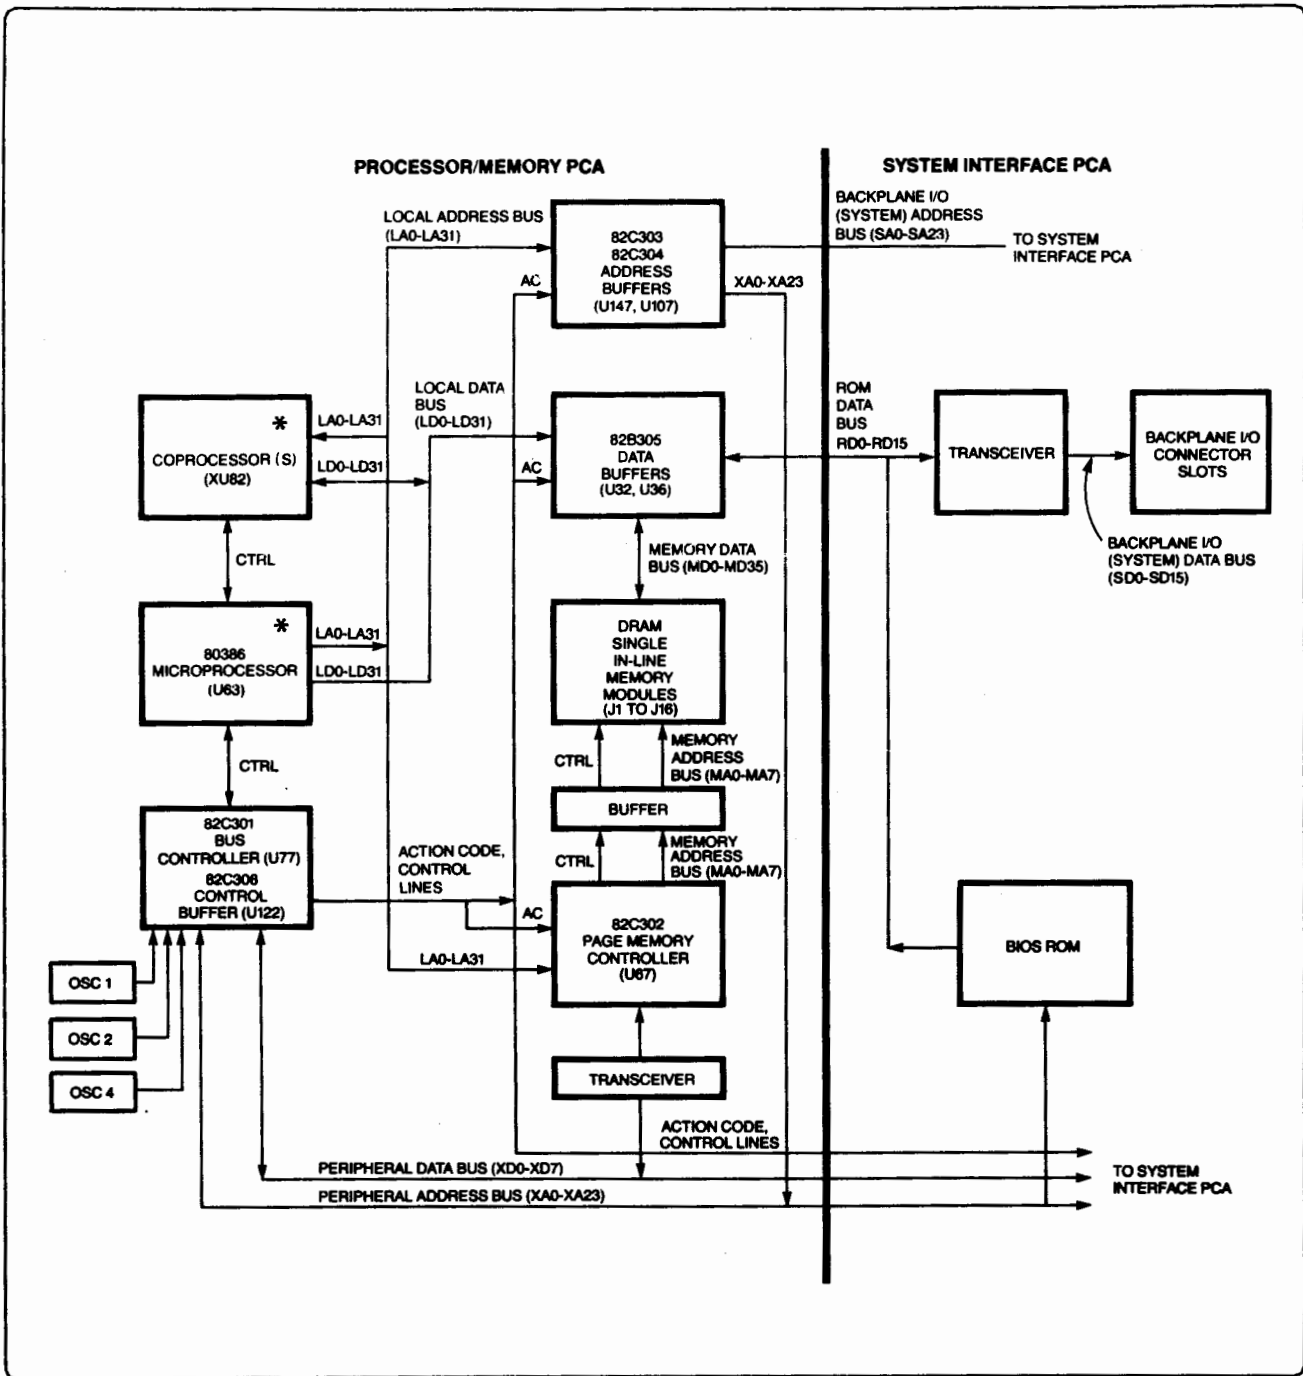
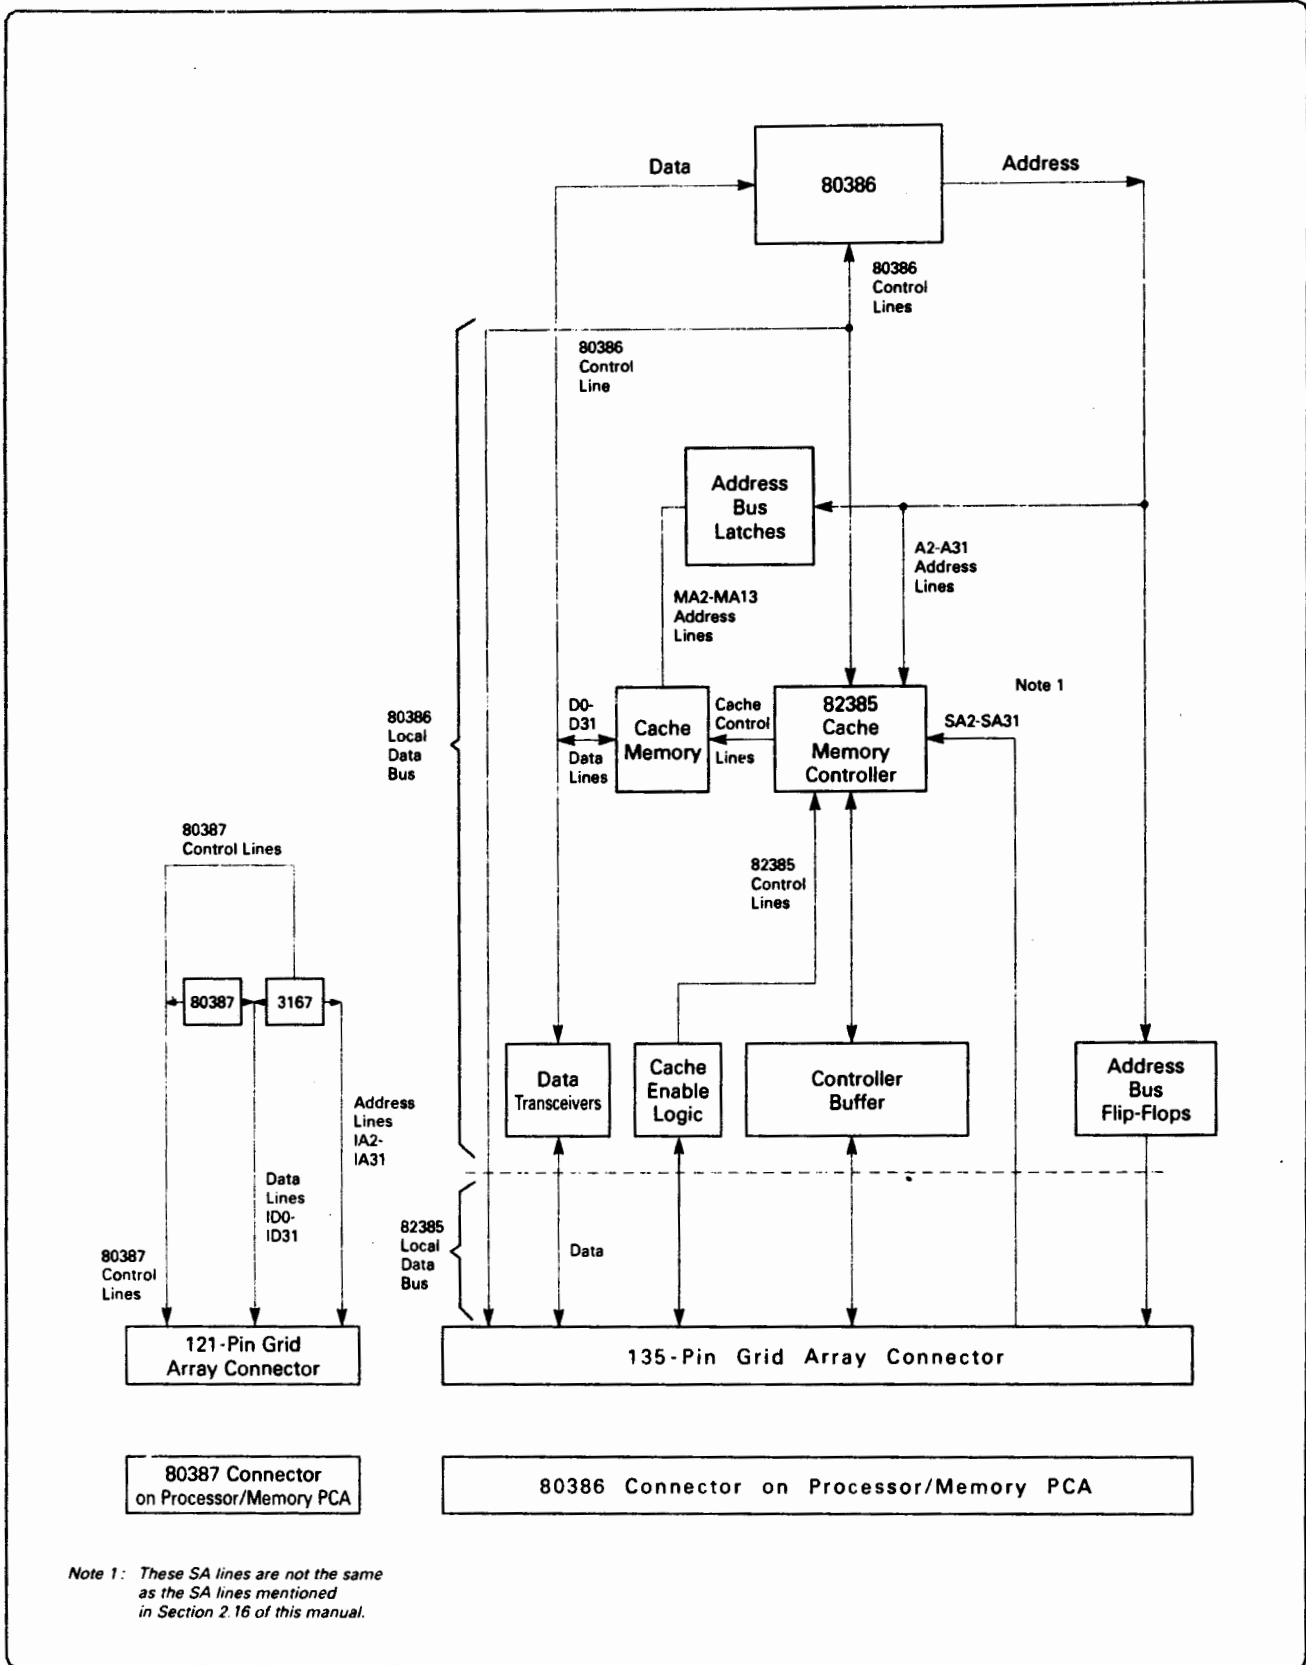

Figure 2-4. Processor/Memory PCA Block Diagram (all models)
Figure 2-5. Cache Memory System PCA Block Diagram
Figure 2-4 is a block diagram of the Processor/Memory PCA, and Figure 2-5 is a block diagram of the Cache Memory System PCA. A discussion of the main components and their operation follows. (Schematics for the Processor/Memory PCA and the Cache Memory System PCA are given at the end of the chapter.)
\* For the RS/20C and RS/25C models, (1) the Cache Memory System PCA is connected onto the Processor/Memory PCA's sockets for the 80386 microprocessor and the 80387 coprocessor, and (2) the 80386 microprocessor and the coprocessors are installed onto the Cache Memory System PCA. (For the RS/20C and RS/25C models, see Figure 2-5 for an extension of this block diagram.)